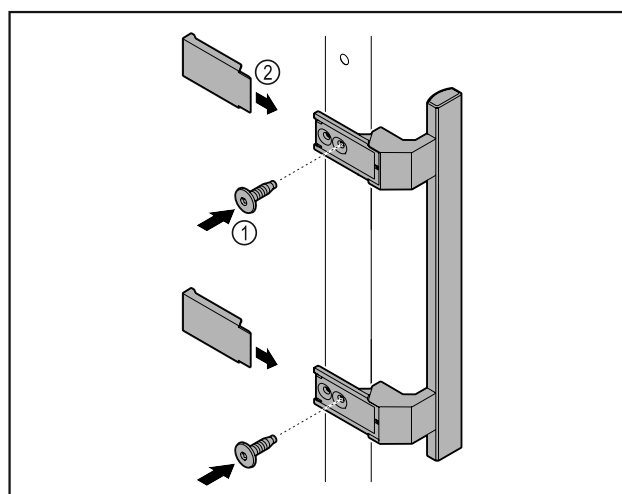

Fig. 7
- Attach handle from accessory kit to the door using supplied screws Fig. 7 (1).
- ▶ Put on cover *Fig. 7 (2)*.